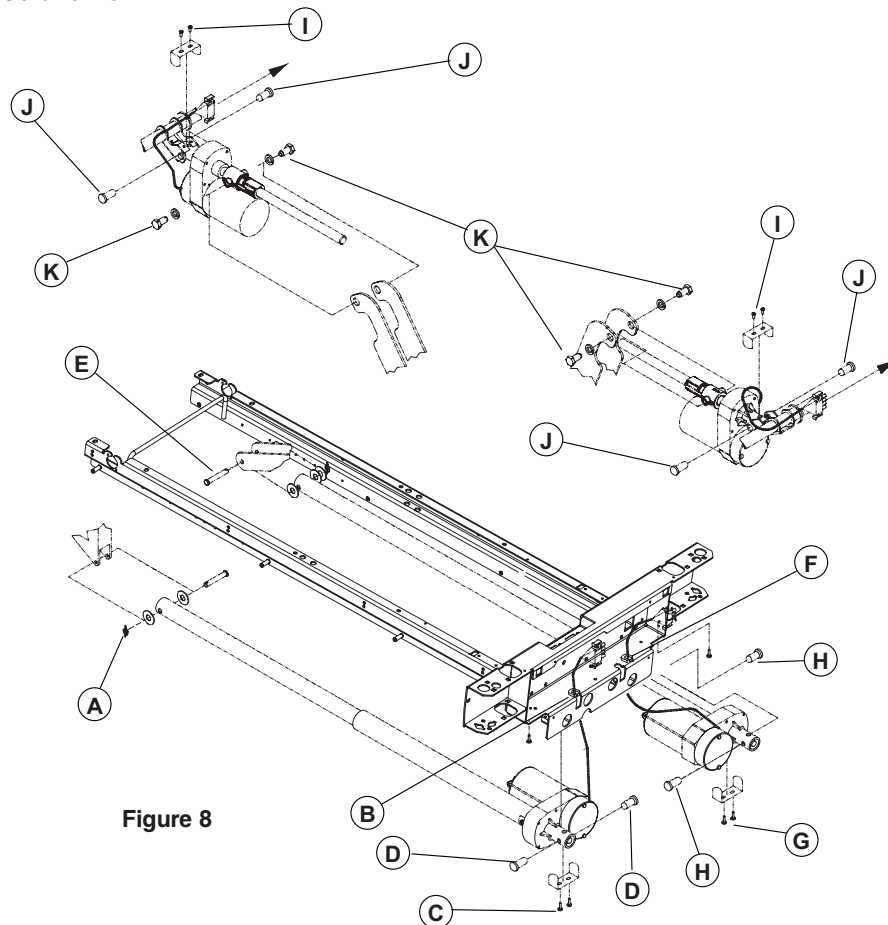

Figure 8
4. Using needle nose pliers, remove the rue ring cotter/washers/clevis pin (E, Figure 8, page 1-42) linking the thigh section lever arms to the thigh actuator tube.
7. Using a #2 Phillips screwdriver, remove the two screws (D) holding the micro switch activator to the thigh section. Install the micro switch activator on the new thigh section.
Unless otherwise indicated, refer to Figure 8, page 1-42, for reference for this procedure.